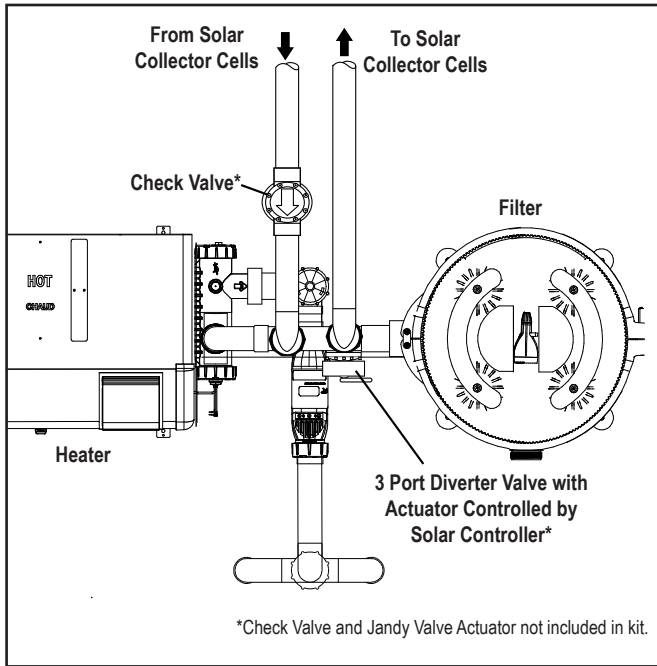

Figure 3. Connections from Versa Plumb® piping to the Solar Connector
FOR YOUR SAFETY - ONLY the plumbing pieces in the Versa Plumb kits as shown in figures 3, 4, and 5 are intended for “do it yourself” (DIY) homeowner installation. Any pool equipment such as heaters, filters, pumps, etc. must be installed and serviced by a contractor who is licensed and qualified in pool equipment by the jurisdiction in which the product will be installed where such state or local requirements exist. In the event no such state or local requirement exists, the service provider or maintainer must be a professional with sufficient experience in pool equipment service and maintenance so that all of the instructions in this manual can be followed exactly. Before installing this product, read and follow all warning notices and instructions that accompany this product. Failure to follow warning notices and instructions may result in property damage, serious injury, or death. Improper installation and/or operation will void the warranty.
NOTE The check valve and the Jandy valve actuator (shown in figure3) are not included in the CV Solar Versa Plumb Kit.
1. Install a check valve and piping (see Figure 3).
2. Install the Jandy valve actuator onto the Jandy 3-port diverter valve (see Figure 3).